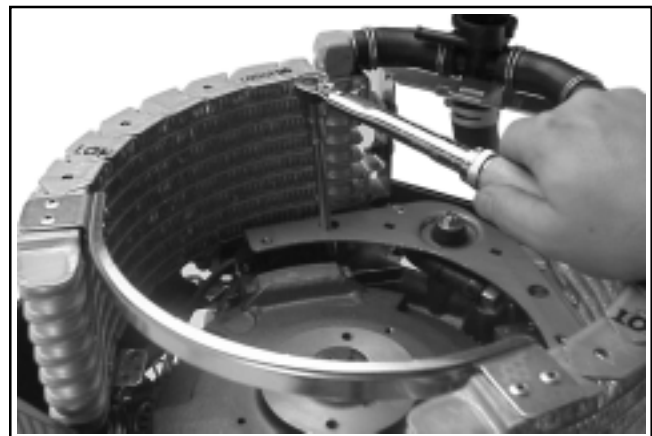

Figure 11-87. Setting Ignition Module Air Gap.
- Insert a **0.36 mm (0.014 in.)** flat feeler gauge between the magnet and ignition module. See Figure 11-87. Loosen the hex. flange screws enough to allow the magnet to pull the module against the feeler gauge.